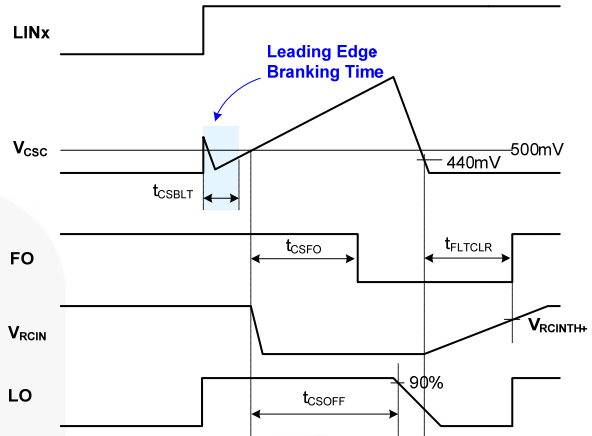

Figure 42. R_{CIN} and Fault-Clear Waveform Definition
Figure 42 shows the waveform definitions of RCIN, $\overline{FO}$ and the low-side driver, which uses a soft turn-off method when an under-voltage condition of the low-side gate driver supply voltage (V_{DD}) or the current-sense pin (CS) recognizes a fault. Once a fault condition occurs, the $\overline{FO}$ pin is internally pulled to COM and all outputs (HO1,2,3 and LO1,2,3) of the gate driver are turned off. Low-side outputs decline linearly by the internal sink current source ($I_{SOFT}=40\text{ mA}$) for soft turn-off, as shown in Figure 42.